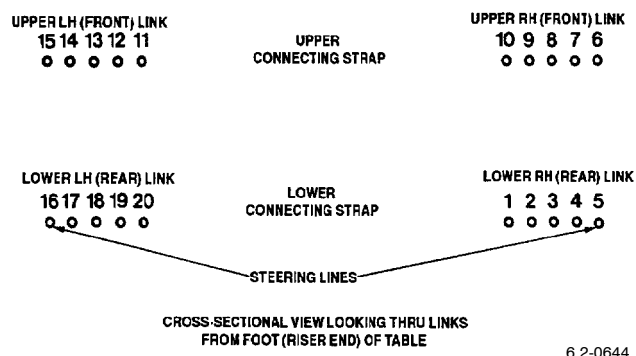

Figure 6. Suspension Line Continuity Check
a. Suspension lines for dips, twists, and proper sequencing (Figure 6). (QA)